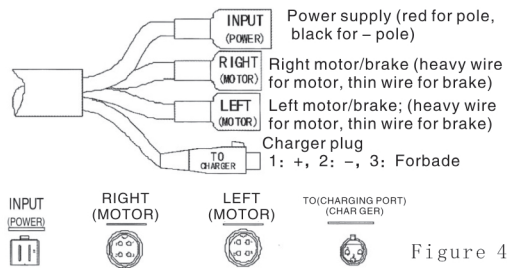

Figure 4
(7) Observe the cables located in the lower part of the vehicle; if you find the cables hanging to the ground, please bundle them with the attached cable ties and keep them off the ground. Have a certain height (see Figure 4).